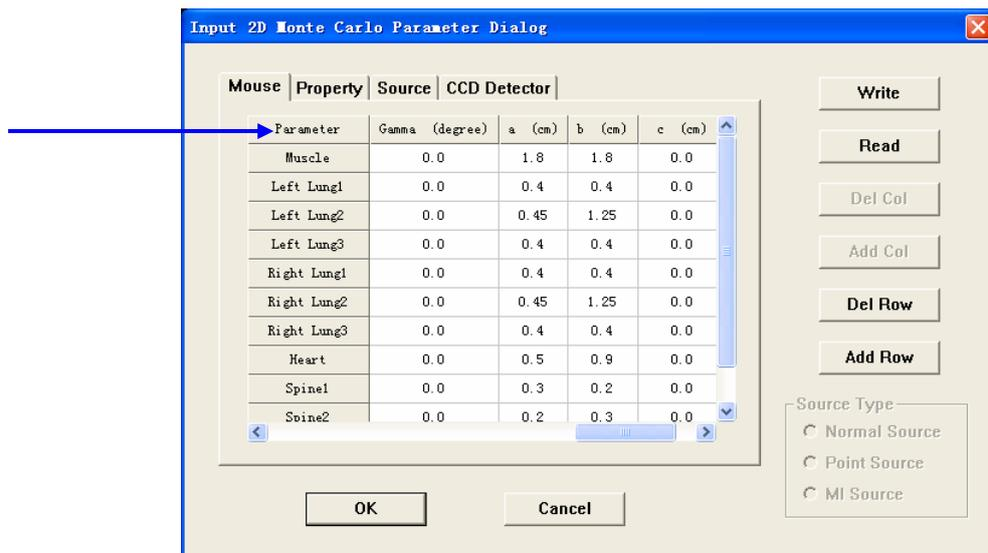

Figure 5-4. Input Parameters Dialogue in 2D MOSE
- a*: semi-axes along the x coordinates (See Figure 5-4)
- b*: semi-axes along the y coordinates (See Figure 5-4)
- c*: semi-axes along the z coordinates (See Figure 5-4)